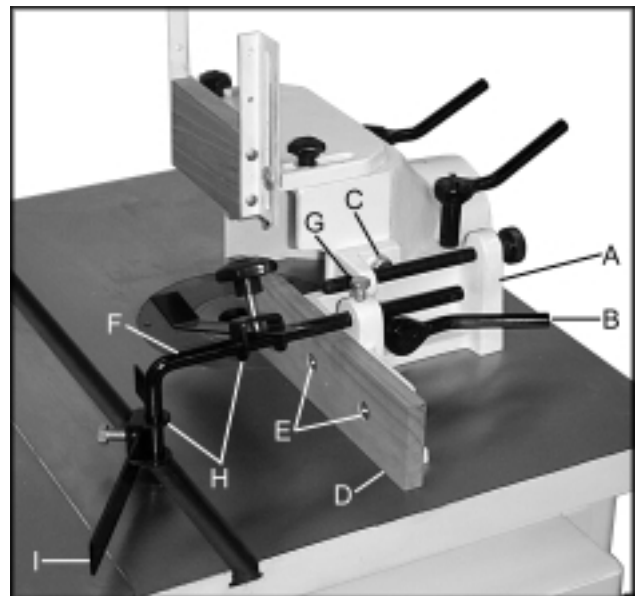

Fig. 2
7. Place the fence bracket assembly (A, Fig. 2) on the table and secure by threading ratcheting handle (B, Fig. 2) into dust chute.
8. Tighten hex cap bolt (C, Fig. 2) into the dust chute using a 14mm wrench.
9. Attach the wooden fence (D, Fig. 2) to the fence bracket assembly using two countersink flat head screws (E, Fig. 2), two large flat washer, two lock washers and two hex nuts.
10. Feed the guide support (F, Fig. 2) into the fence assembly and secure with a hex cap screw (G, Fig. 2).
11. Slide the two brackets (H, Fig. 2) onto the guide supports. Place the guide plates (I, Fig. 2) between the brackets and the supports. Tighten knob and hex cap bolt to secure the guide plate in place. **Note:** Repeat for opposite side fence